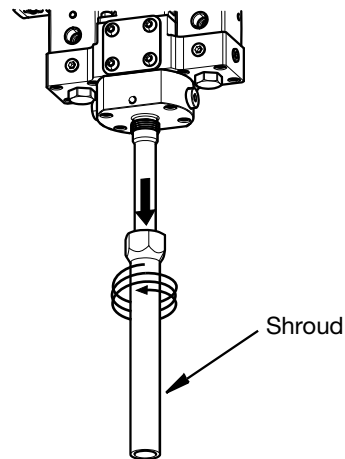

FIG. 31
4. Remove the shroud from the Voltex Dynamic Mix Valve. See FIG. 31.